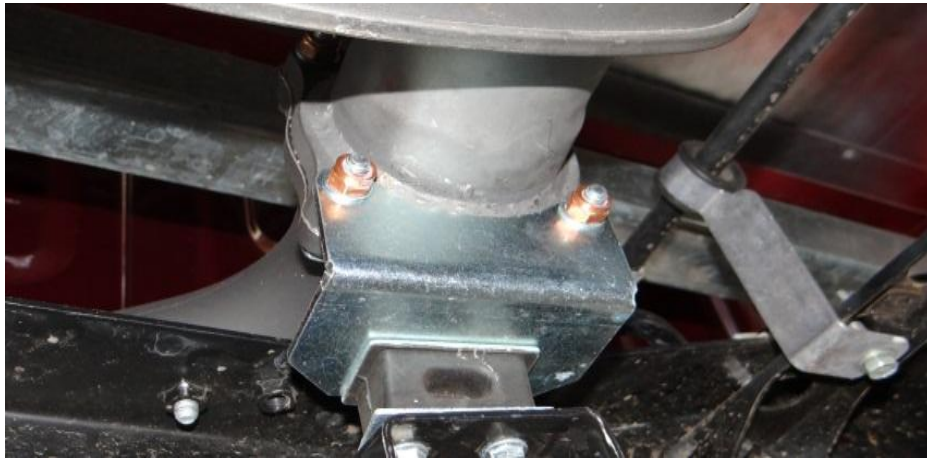

Figure 2
7. Fit newly supplied zinc plated 90° bent pipe mount bracket (Shown Below) to lower muffler flange bolt holes using two M8x1.25x40mm bolts and four M8 flat washers. Tighten M8x1.25 lock nuts finger tight. Refer Figure 2.